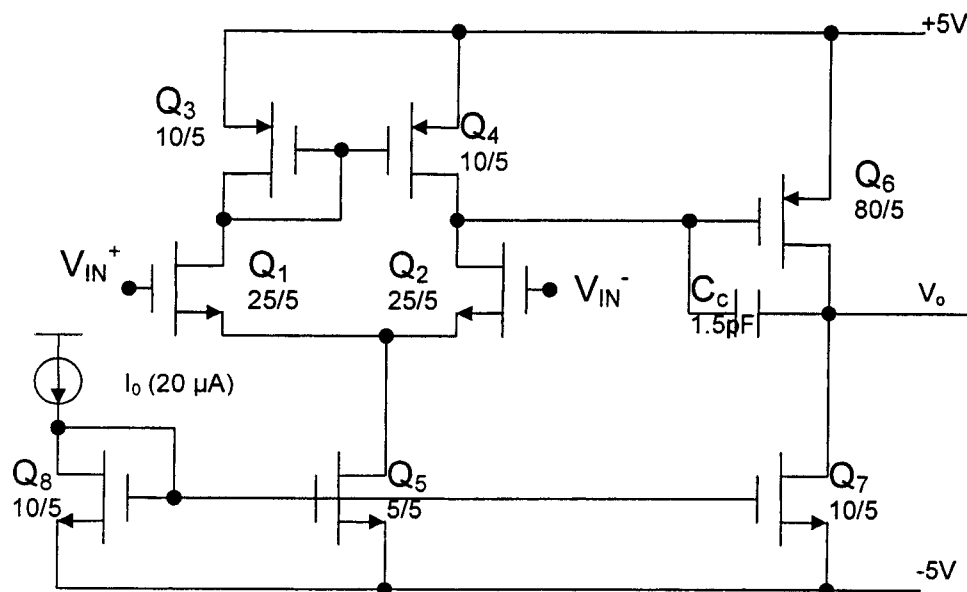

Figure 3.1
- (b) Estimate the low-frequency differential voltage gain, slew rate, gain-bandwidth product and maximum positive output swing of the two-stage CMOS op-amp shown in Figure 3.1. Aspect ratios of all devices are shown on the circuit. Assume all bulk effects are negligible. Device model parameters are given below.